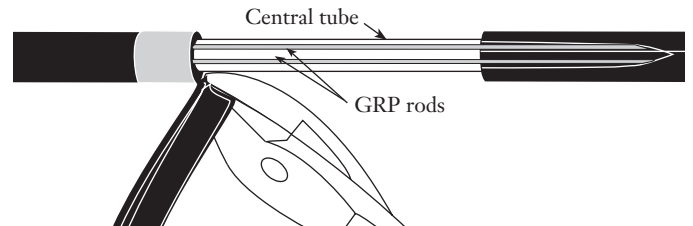

Figure 22
6.9 Using needle nose pliers, peel off both sections of the split sheath to the tape mark to expose a 15 cm (6 in.) section of central tube. Use side cutters to remove the sheath sections flush with the tape wrap (Figure 22).